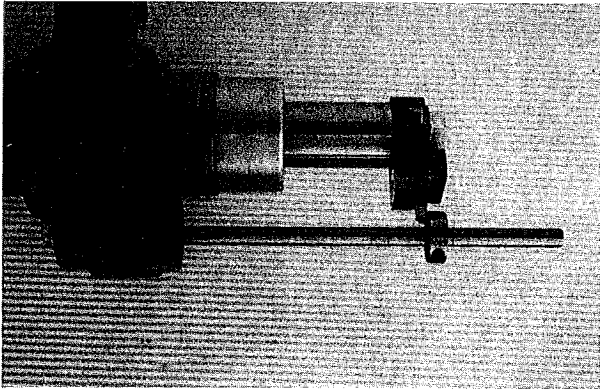

Fig. 5 Adjusting Depth of Cut
4. Adjust collar (13) on special depth setting shaft (14) to the engine model to be bored.
5. Attach depth setting shaft (14) on bottom side of base plate (15) with socket head cap screw provided. See Figure 5.